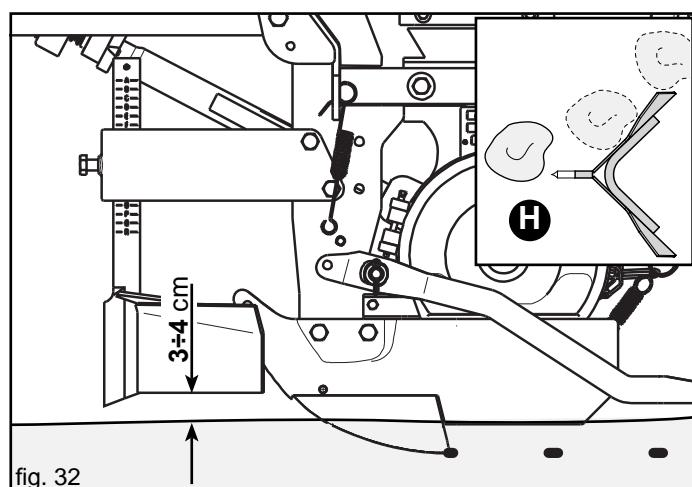

fig. 32
The action of the front clod clearer is crucial to correct and homogeneous sowing; it allows the track of the element's depth wheels (1, Fig. 25) to be cleared of the largest clods (H, Fig. 32) that could cause irregular planting depth.
- On the outer element only, lower the front clod clearer to 3 to 4 cm from the level created by the depth wheels of the seeding element (Fig. 32).